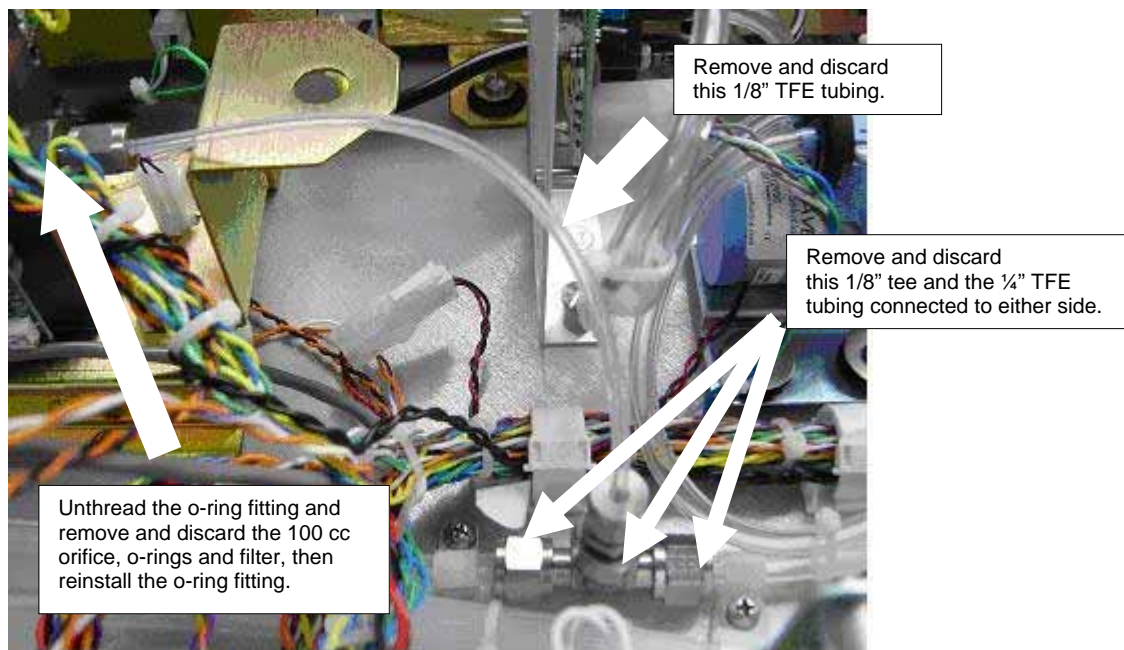

Figure 1
1. Disconnect and discard the 1/8" Teflon tubing that leads between the output of the O₃ generator and the top of the stainless steel tee. See Figure 1.
2. Remove the stainless steel tee and the 1/4" Teflon tubing that runs to the output manifold and to the 5 LPM orifice holder on the regulator assembly. See Figure 1.
3. Unthread the stainless steel o-ring fitting from the output of the O₃ generator and remove the 100CC flow orifice, o-rings and filter. Reinstall the stainless steel o-ring fitting being careful not to over tighten. It should be snug. See Figure 1.